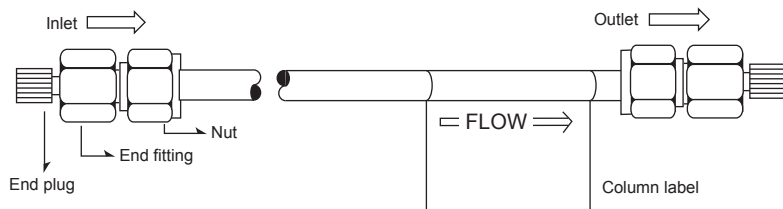

Figure 2 Column Parts
- (1) Confirm the correct product name is listed on the column label.
- (2) Each column is equipped with a union nut enabling a connection to a 1/16"O.D. capillary tubing. The union nut is designed for American standard compression plugs and ferrules.
- (3) Confirm the flow direction on the column label or etched onto the column as shown in Figure 2. Solvent should flow only into the column from the inlet side. The columns are designed so that optimal resolution is obtained when the flow direction is as indicated on the column.
- (4) Purge all air out of the tubing using the mobile phase. This helps to prevent any air from entering the column. Any air in the tubing causes serious deterioration of column efficiency.
- (5) Initially set the solvent flow rate at one-half of the intended flow rate. Make sure that the solvent is flowing freely out of the end of the tubing from the injector.
- (6) Remove the end plugs from the column and connect the inlet of the column to the tubing from the injector. Make sure that the tubing is fully inserted into the compression fittings before tightening in order to minimize dead volume. Always keep dead volume to the absolute minimum throughout the entire system.
- (7) After the solvent flows from the outlet of the column, connect the column to the detector.
- (8) Start pumping the solvent at a flow rate less than one-half of the final flow rate. Avoid a sudden pressure surge to the column.
- (9) The columns are very sensitive to pressure pulsing. A pulseless pumping system should be used.
- (10) The columns should be equilibrated before use by allowing at least 10 column volumes of solvent to pass through the column.